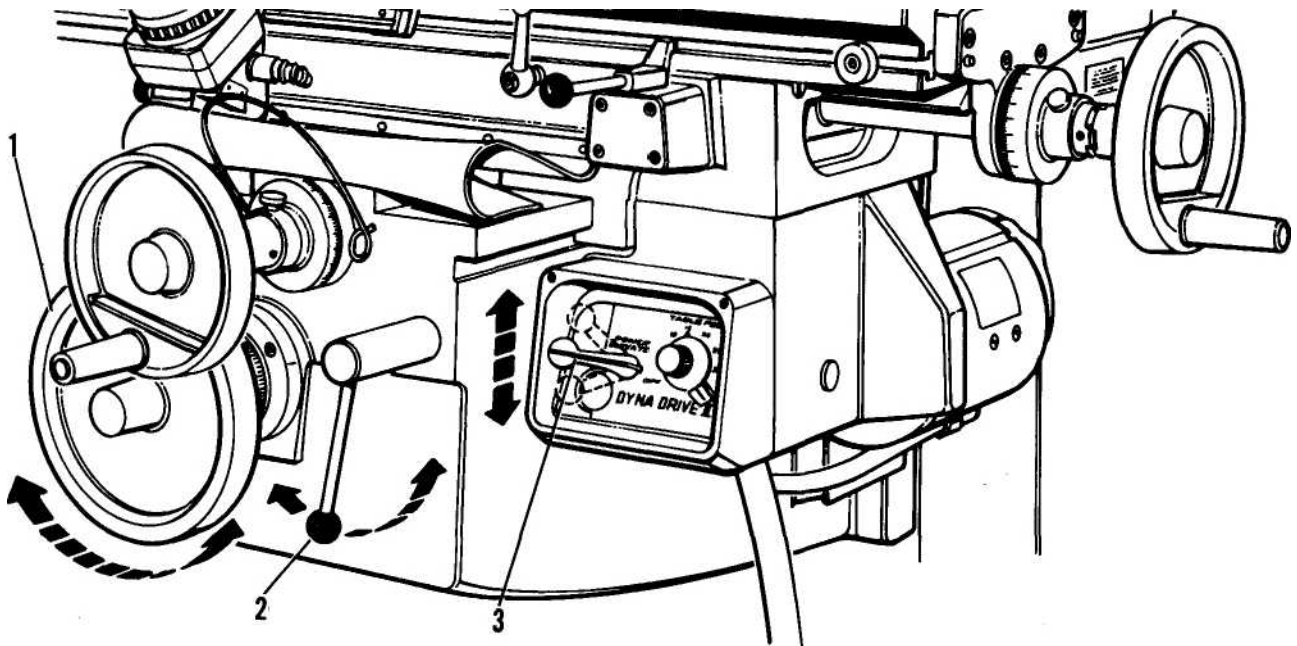

Figure 11. Knee Elevate-Power
## POWER ELEVATE (Figure 11)
Should the limit switch be actuated by either stop -- the power elevate control will be inoperative through control lever (11). To restore power control, the knee is moved by manual handwheel (11) in an opposite direction until the limit switch is free of the stop. Power control will then be available again through control lever (3, figure 11).